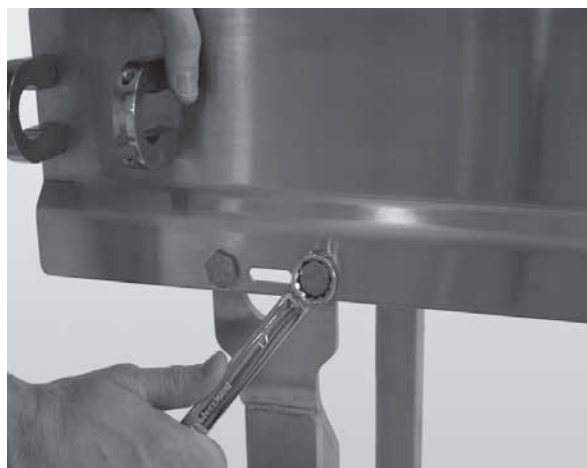

Figure 11
2. Attach the stands to the frame (**Figure 11**).